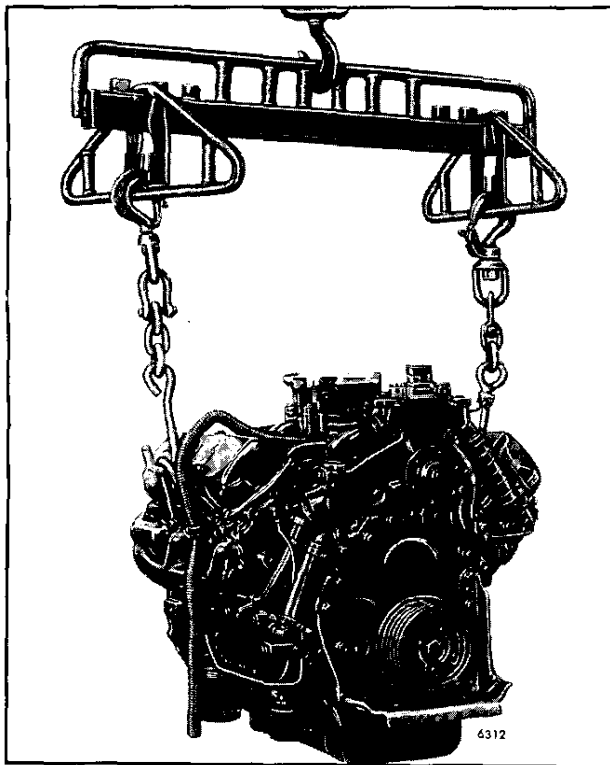

Fig. 3 - Lifting Engine
**CAUTION:** Use a suitable lifting device such as shown in Fig. 3 to lift the engine. A spreader bar should be used with a sling and adequate chain hoist when lifting any engine. The lifting device should be adjusted so the lifting hooks are vertical to prevent bending of the engine lifter brackets. To ensure proper weight distribution, all engine lifter brackets provided should be used in lifting the engine.